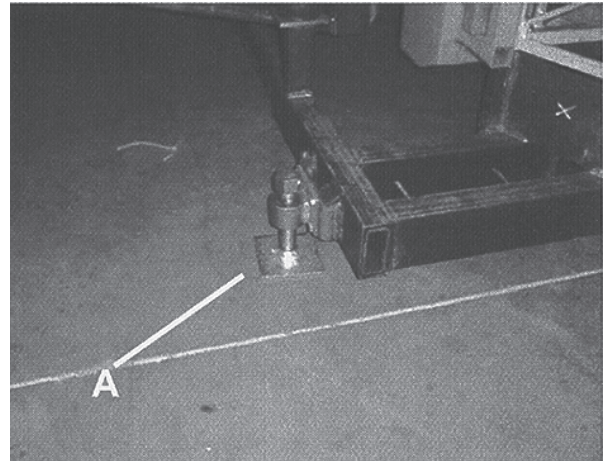

Fig.6-03 Screw spindles
4. Immediately turn up the screw spindles (fig.6-03, A) evenly until they no longer have a load bearing function.